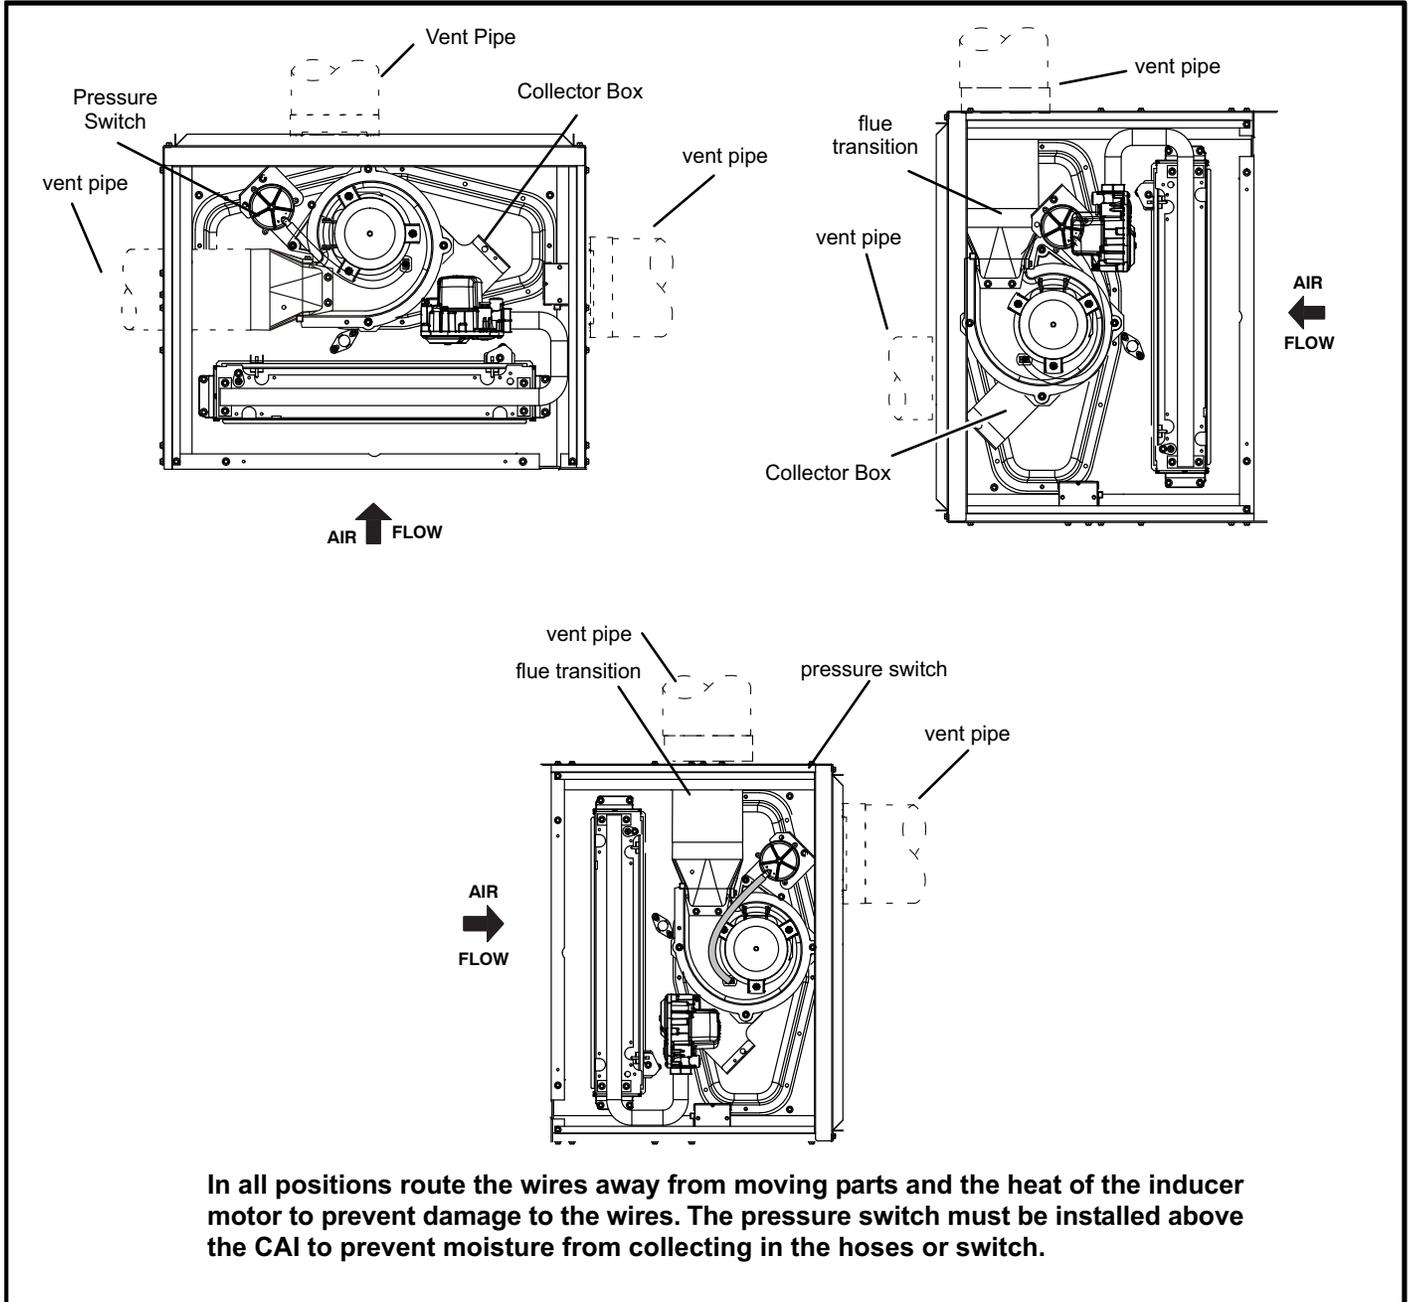

FIGURE 9
The ML180UH(X) furnace can vent in multiple positions. See figure 9.